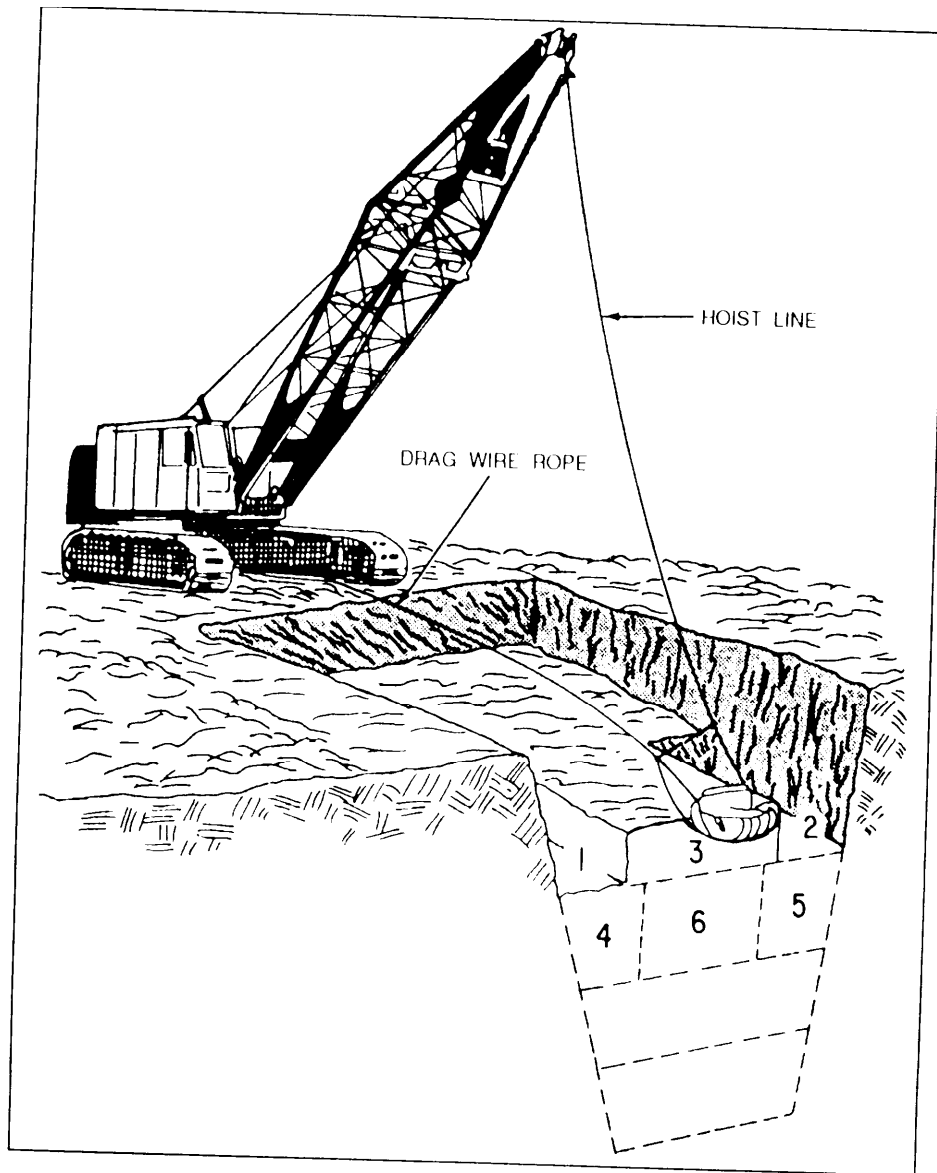

Figure 12-48. In-line approach with dragline.
1. In-line approach. When excavating a trench with the dragline, ensure the dragline and carrier unit are centered on the excavation (fig. 12-48). The dragline cuts or digs to the front and dumps on either side of the excavation. The crane moves away from the face as the work progresses.